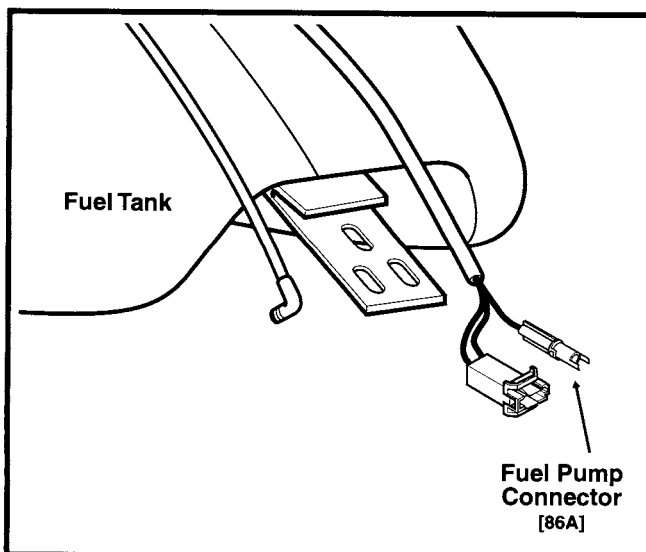

Figure 113. Fuel Pump Connector
The fuel pump delivers fuel to the fuel line, to a cavity in the induction module that supplies the fuel injectors and to the pressure regulator, where the system pressure is controlled. Excess fuel pressure is bypassed back to the fuel tank through the return line. The fuel pump wire harness connector [86] is located under the seat behind the fuel tank. See Figure 113. The fuel pump can be turned on with the Scanner or by applying battery voltage to the connector [86].
- a. Disconnect the fuel pump connector [86] from the main wiring harness. Locate the black one-place electrical connector in front of the battery. Pull both external latches outward to separate pin and socket halves. See Figure 113.